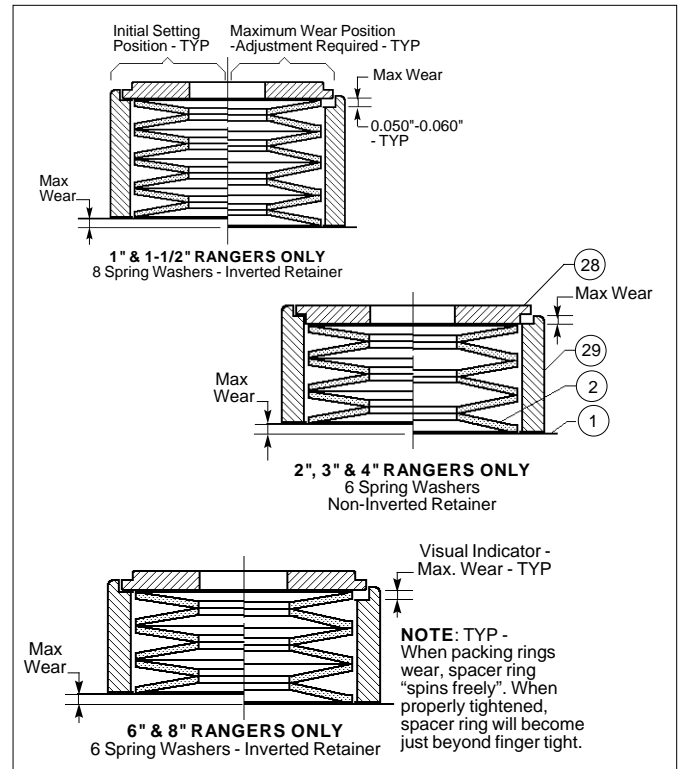
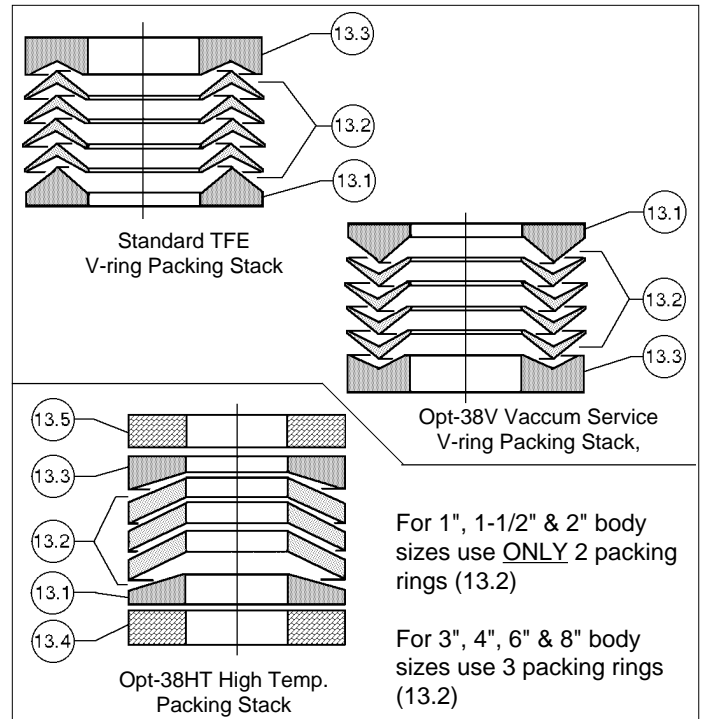

FIGURE 9
FIGURE 11
1. Ensure that packing flange nuts (22) have not worked loose during shipment.
2. For non-live loaded construction, hand tighten the nuts (22) enough to stop any leakage. Do not over tighten.
3. For live loaded construction, if spacer ring (29) is loose, tighten both nuts (22) equally
until spacer ring (29) no longer “spins freely” using two fingers. Rotate both nuts (22) additional 1/2 revolution for correct packing load. See Figure 9 for correct orientation of live-loaded packing design.
1. Remove the actuator assembly (AA) from the valve body assembly (BA). Refer to Actuator maintenance manual IOM-48 or 148/148X.
2. Secure body (1) in a vise with the stem (7) horizontal to the floor. Place matchmarks between yoke (12) and body (1) to assist in final orientation when reassembled.
- a. Loosen both packing flange nuts (22) until clearance exists between the bottom of the nut (22) and the retainer (28).
- b. Spacer ring (29) should "spin freely". If stacked mechanism (27)(28)(29) is not loose due to corrosion, debris, packed dirt, etc., tap the spacer ring (29) lightly while attempting to pry up the spacer ring (29) bottom with a thin flat tool.
- c. Remove both packing flange nuts (22) only after the live-loaded mechanism (27)(28)(29) is "free" and loose.
- d. Pry up both live-loaded mechanisms (27)(28)(29) one side at a time. Carefully lift the mechanism (27)(28)(29) over the packing stud (21) ensuring that the Belleville spring washers (27) are not dropped in removal, preventing a determination of washers' (27) orientation one-to-the-other. Set the two mechanisms (27)(28)(29) down together, side by side.
- e. Inspect the retainers (28) for orientation. Both of the retainers (28) should have the same orientation. Improper/differing orientations will cause unbalanced loading of the packing rings (13). See Figure 9 for proper orientation.
- f. Inspect both spring washer (27) stacks for proper orientation by carefully lifting off the spacer ring (29) and retainer (28), exposing the spring washer (27) stack. Each stack of spring washers (27) should be oriented the same. Improper/differing orientation will cause unbalanced loading of the packing rings (13). See Figure 9 for proper orientation.
- g. Replace all Belleville spring washers (27) if there are any signs of corrosion. It is recommended that spring washers be replaced in full sets. The spacer rings (29), retainers (28), as well as the packing studs (21) should be replaced if corroded.
- h. Remove yoke (12) bolting by removing two cap screws (19) on 1", 1-1/2" and 2" sizes, or two nuts (22) on the 3", 4", 6" and 8" sizes.
- Secure body (1) in a vise with stem (7) vertical to the floor. Reassemble stem (7) per appropriate Subsection E., F., or H.
- Never replace packing (13) without reconditioning the stem (7) surface finish and the body (1) stuffing box as specified in Subsection IV.D.
- For TFE V-Ring Packing. (See Figure 11.)
NOTE: Following text pertains to "standard" packing stack (13) orientation. Stack procedures differ slightly for other packing options. See Figure 11.
- Remove packing follower bushing strip (16). Solvent clean packing follower (15). Insert new packing follower bushing strip (16). Ensure no overlap of strip (16).
- Carefully place lower adapter (13.1) of packing ring set (13) over stem's (7) end, properly oriented (see Figure 11). Using the packing follower (15), push the adapter (13.1) into the body's (1) stuffing box.
- Carefully install the first individual V-ring (13.2) over stem's (7) end, properly oriented. Push down as far as possible using fingers. Carefully place each ring (13.2) upon the other until all V-rings (13.2) are stacked, properly oriented.
- Place upper adapter ring (13.3) over the stem's (7) end, properly oriented.
- Place the packing follower (15) over the stem (7) end, properly oriented, until sitting on the upper adapter ring (13.3).
- i. Place each spring washer (27) stack over its packing stud (21) oriented as shown in Figure 9.
- j. Place each spacer ring (29) over its packing stud (21) and spring washer stack (27) oriented as shown in Figure 9.
- k. Place each retainer (28) over its packing stud (21) oriented as shown in Figure 9. Ensure that each retainer (28) is properly positioned into each spacer ring's (29) groove, and that the retainer's (28) inversion is correct.
- a. Solvent clean the packing follower (15).
- b. Carefully place the lower braided ring (13.4) over the stem's (7) end. Using the packing follower (15) push the braided ring (13.4) into the body's (1) stuffing box. **NOTE:** *It will be necessary to pull up on the stem (7) as the rings (13.2, 13.4) and lower adapter (13.1) are "pushed" into the stuffing box.*
- c. Carefully place the lower adapter (13.1) properly oriented (see Figure 11) over the stem's (7) end and push into the stuffing box similar to the lower braided ring (13.4) of Step 4.b.
- d. Carefully place a packing ring (13.2) properly oriented (see Figure 11) over the stem's (7) end and push into the stuffing box similar to the lower braided ring (13.4) of Step 4.b. Repeat for each ring (13.2).